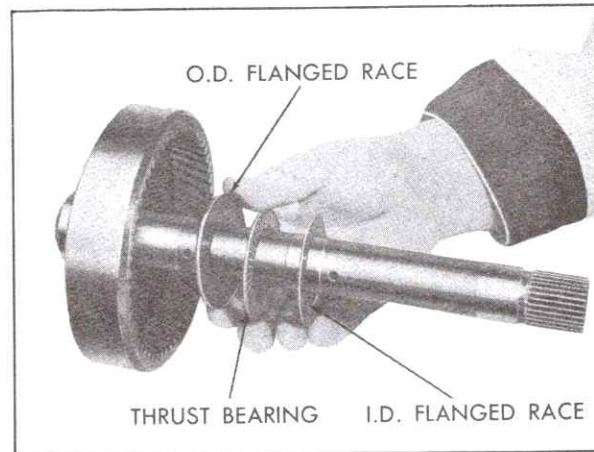

Fig. 7-83 Installing Races and Thrust Bearing on Inner Face of Rear Internal Gear
- a. Install large diameter race first, with flange facing up, Fig. 7-83.